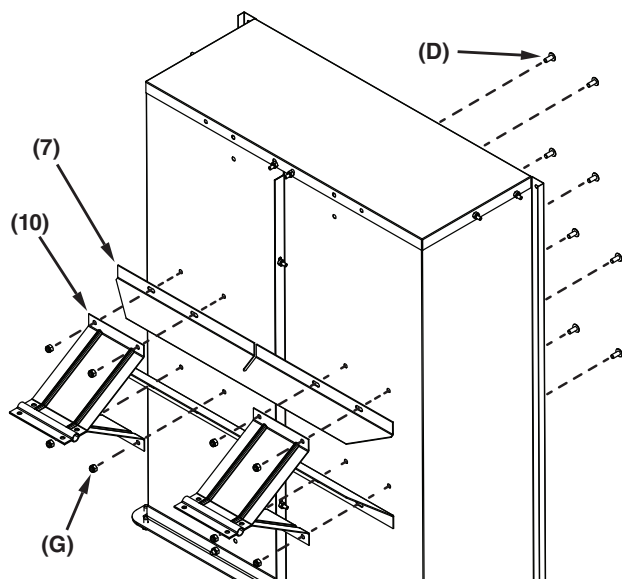

Figure 12
**STEP 12 (SEE FIGURE 12):** Attach the bed supports (7) to the cart and attach the wheel supports (10) to the bed supports (7) using eight 5/16" x 3/4" truss head bolts (D) and 5/16" nylock nuts (G).